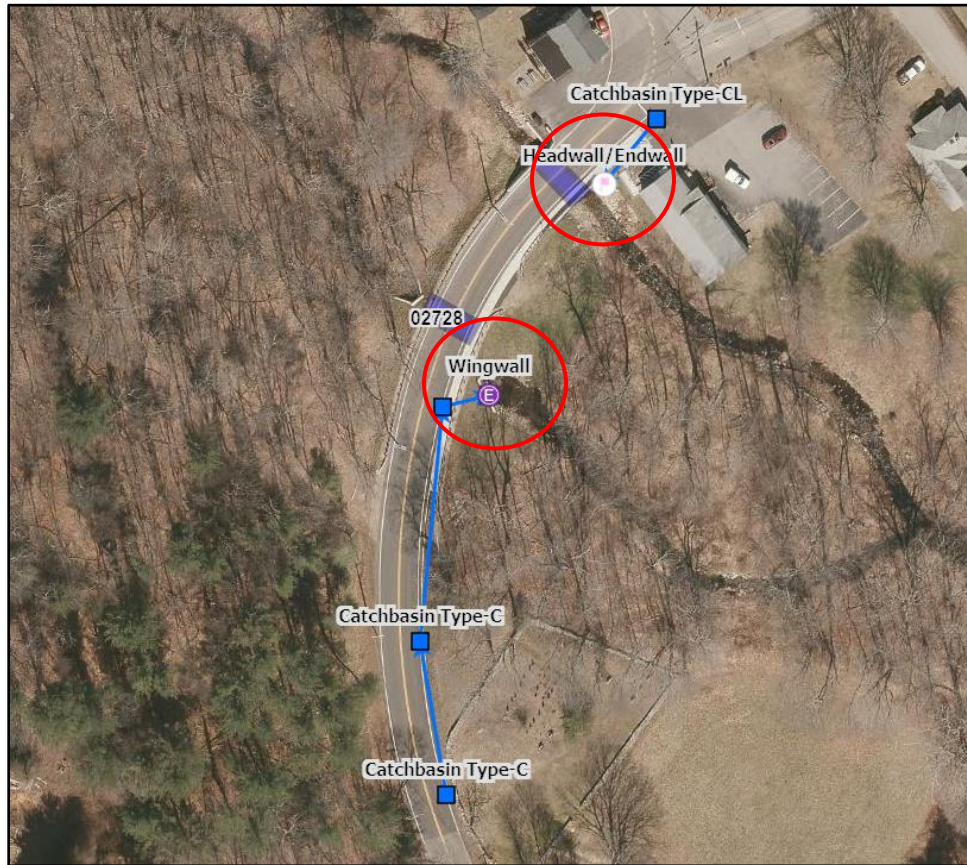

Figure 38. Example screening/sampling point statuses.
7. If creating a screening and sampling point, be sure to select the right status. Status definitions are below and examples of each are shown in Figure 38: